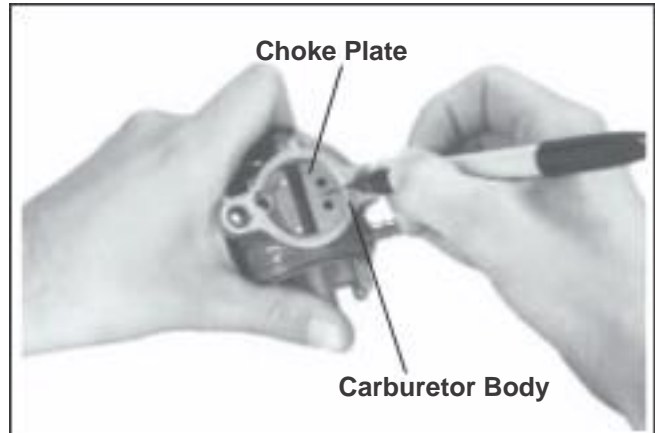

Figure 5-10. Marking Choke Plate and Carburetor Body.
1. Because the edges of the choke plate are beveled, mark the choke plate and carburetor body to ensure correct reassembly. See Figure 5-10.